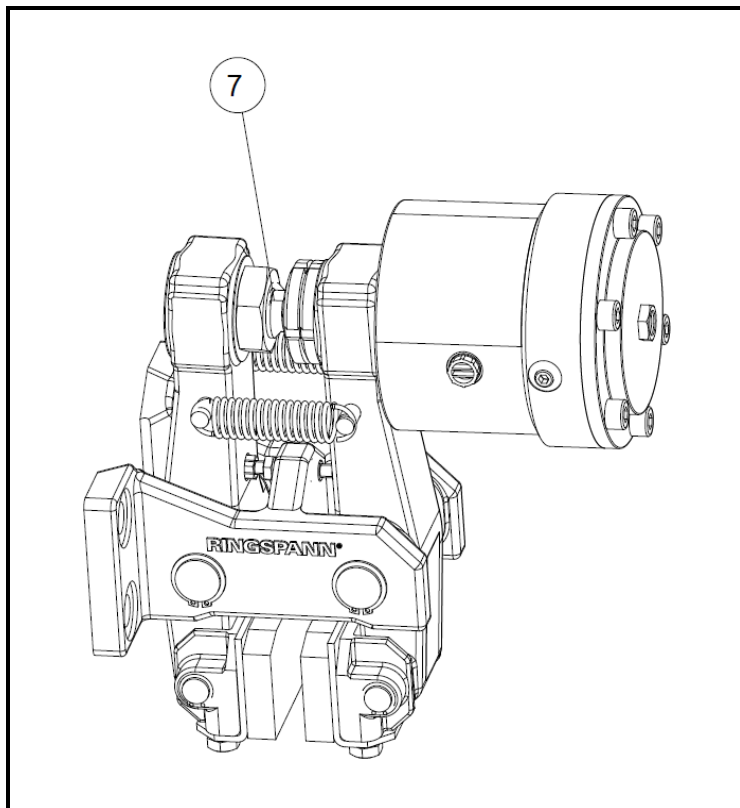

Fig. 8.2
There do exist two different versions of the brake. FHM with manual of adjustment pad wear and FHA with automatic adjustment of the pad wear. The FHA version is clearly recognizable. The set screw (item 7) has a slot, see Fig. 8.2.